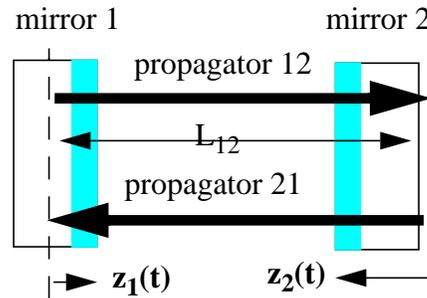

Figure 4: Fabry-Peroit cavity
E.g., a Fabry-Peroit cavity is constructed by two mirrors with two propagators connecting these two mirrors, as is shown in Figure 4.
The mirror displacements are subtracted because of the z axis convention, i.e., z axis of each mirror is pointing outward from the coated surface. When mirrors are displaced with respect to their respective reference plane as is shown in Figure 4,  $z_1$  and  $z_2$  are both positive in this convention, and the length between the two mirrors are shorter than  $L_{12}$  by  $z_1+z_2$ .